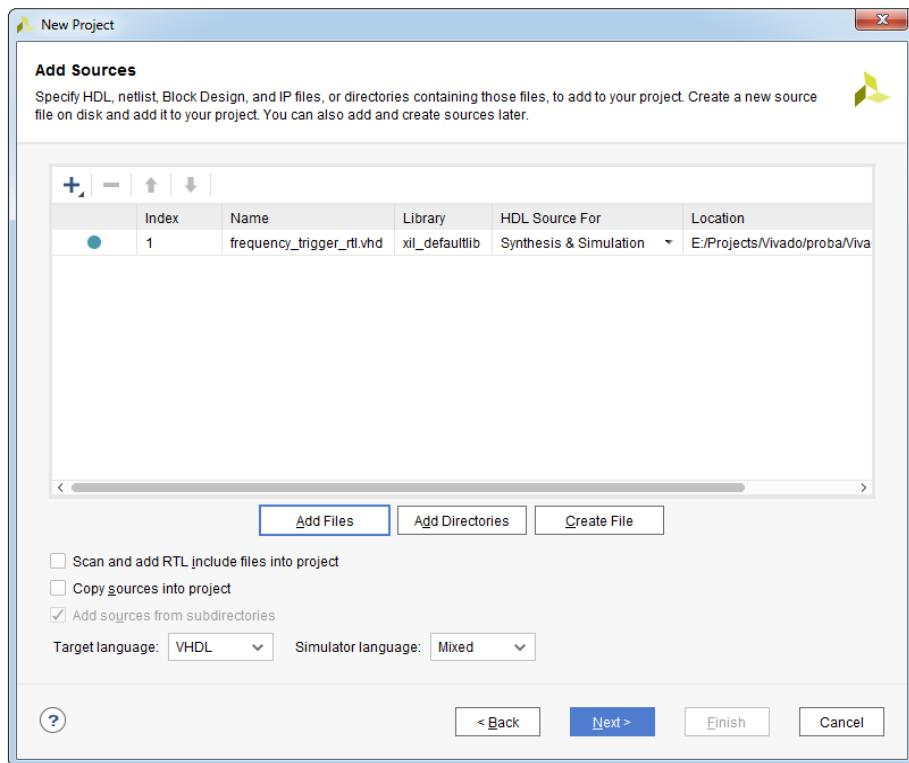

Figure 12.8: Add Sources dialog box with added source file
7. In the **Add Sources** dialog box, select **VHDL** as the target language and ensure that the **Copy sources into project** option is deselected, see Figure 12.8.